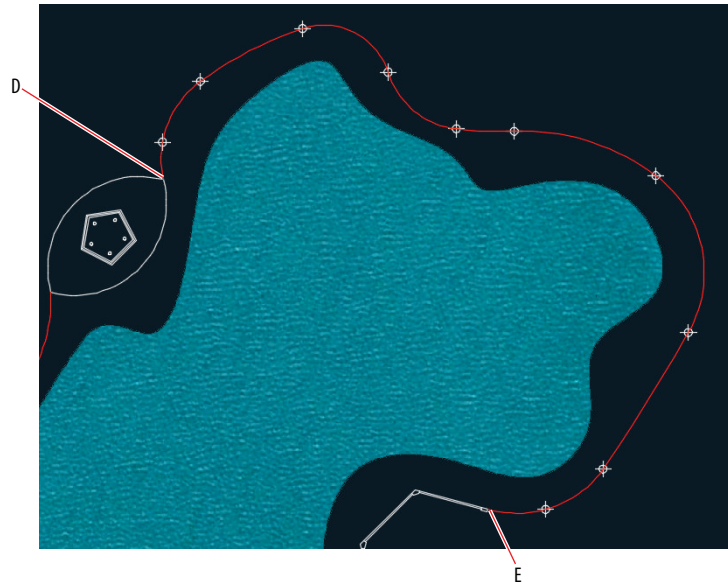

FIGURE 5.4 Drawing another polyline around the right half of the lake
6. Press the spacebar to repeat the last command. Click point D shown in Figure 5.4, type **A** (for Arc), and press Enter.
8. Click each subsequent node around the right side of the lake until you reach point E in Figure 5.4. Press Enter.